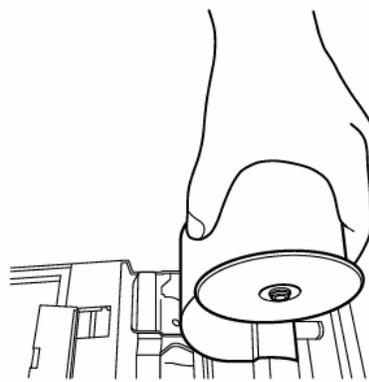

Fig.6
4. Remove the take-up spool from the support (See Fig. 6).